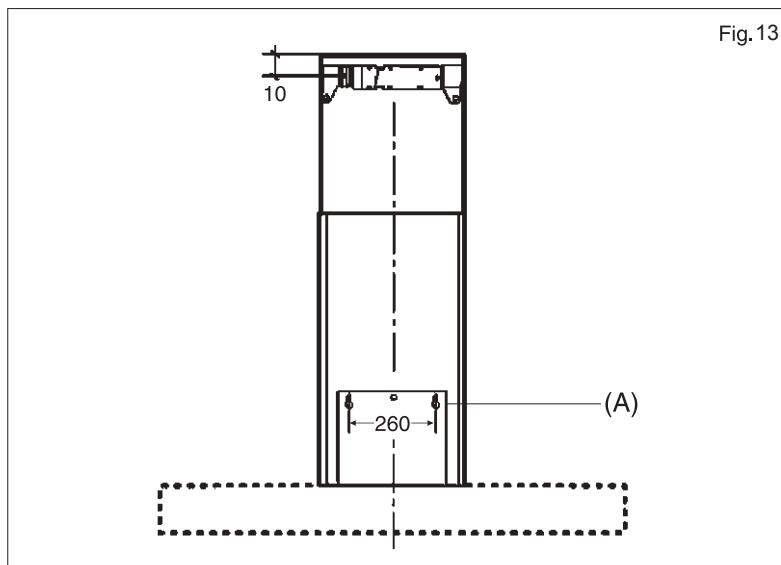

Fig. 13
Drill the holes (A) according to the distances indicated (Fig.13).
Adjust the width of the support bracket of the upper flue (Fig.14). Then fix it to the wall using the screws (A) (Fig.13) in such a way that it is in line with your hood and the required distance down from the ceiling indicated in Fig.13. Connect the flange (C) to the air exhaust hole using a connection pipe (Fig.15).